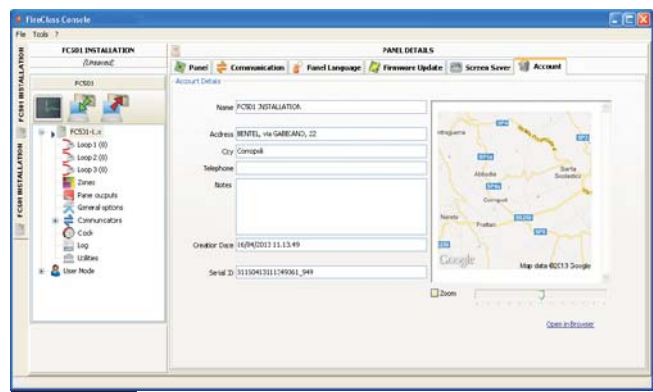

Figure 21 Account window.
-  Click on on this icon in the window shown in Figure 21, you can see the details of the Panel, enter the name and address of the Control Panel/Customer.